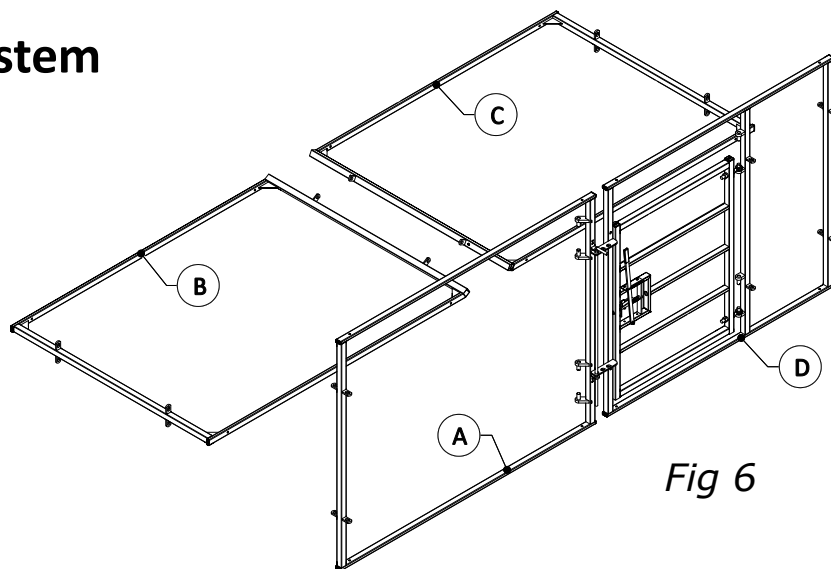

Fig 6
Remove the RoteX® support frames (A), (B), (C) and (D) from the pallet and arrange them so that they can be easily accessed during installation. Fig 6 shows a typical arrangement for a *right-hand* installation. Refer to page 1 if you are installing the system in a left-hand configuration. Note that *all* panel labels will converge at the centre of the RoteX® arc.